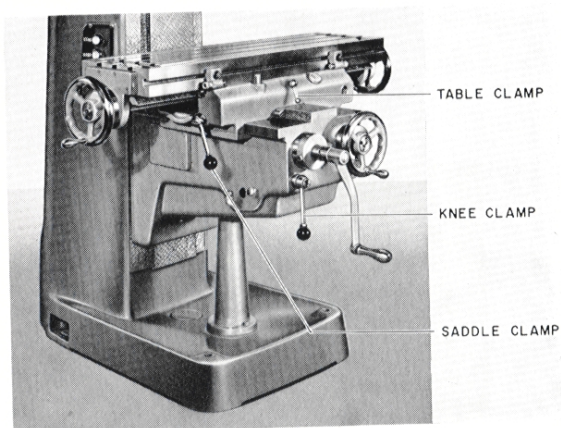

Figure 24
**Clamping Devices for Sliding Units** — The table, knee and saddle housings may be clamped in position by tightening the levers shown in Figure 24. One lever on each unit clamps that unit firmly in place. The sole purpose of these clamps is to hold the units rigid during the machining operation. For example, if only the table movement alone is being considered, tighten the knee and saddle clamping devices just prior to actual machining. By clamping these units firmly in place, the rigidity of the machine as a whole will be increased and the tendency toward vibration and subsequent chatter will correspondingly be reduced.